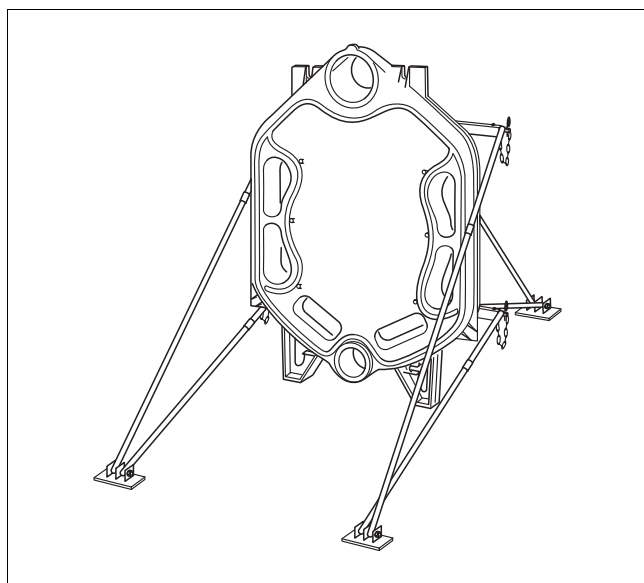

Fig. 7 Rear section with fitted installation set
- Prevent the boiler sections from falling over using the installation aid (accessory) First screw the rear section firmly onto the installation aid (→ Fig. 7).
- ▶ Put the rear section in place and prevent from falling over using the installation aid (→ see Fig. 7 and separate installation aid instructions).